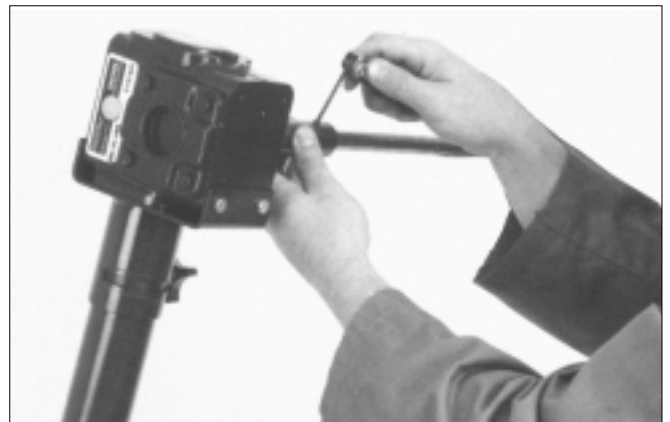

Figure 25
3. Slide the drive shaft over the end of the gearbox output shaft. Tighten the two (2) set screws to securely hold the shaft in place, Fig. 25.